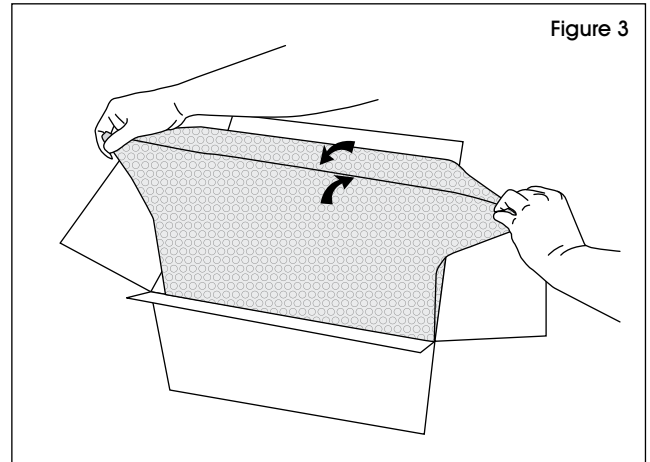

Figure 3
4. Seal the liner. The side with the adhesive strip should be on the bottom. Smooth over the length of the seam to ensure a tight seal. (See Figure 3)